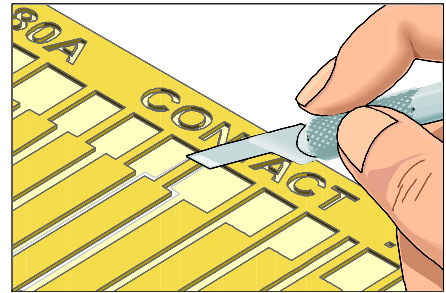

Figure 4: Cut out the new edge contact. Cut from the plated side.
10. Cut out and trim the new edge contact. Cut out from the plated side. Cut the length to provide the maximum allowable joint if lap soldering. Minimum 2 times the circuit width. Leave the new edge contact extra long. The excess material will be trimmed after bonding. (See Figure 4).